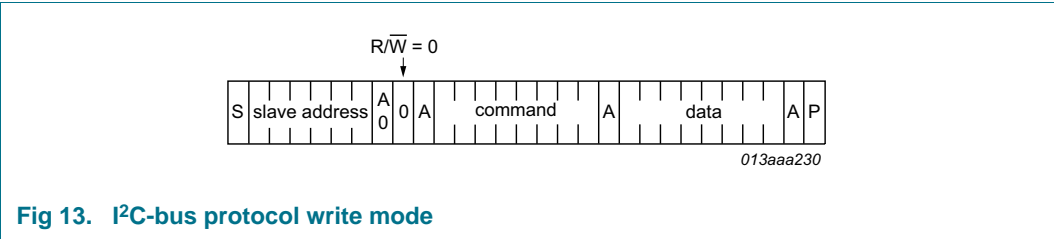

Fig 13. I2C-bus protocol write mode
The I2C-bus protocol is shown in Figure 13. The sequence is initiated with a START condition (S) from the I2C-bus master which is followed by the slave address.